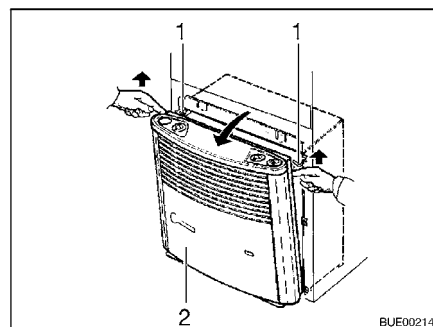

Fig. 72 Removing heater cover
- Remove heater cover (Fig. 72,2). Pull the heater cover upwards and forwards, press up the retaining springs (Fig. 72,1) to the side and tip the cover forwards.